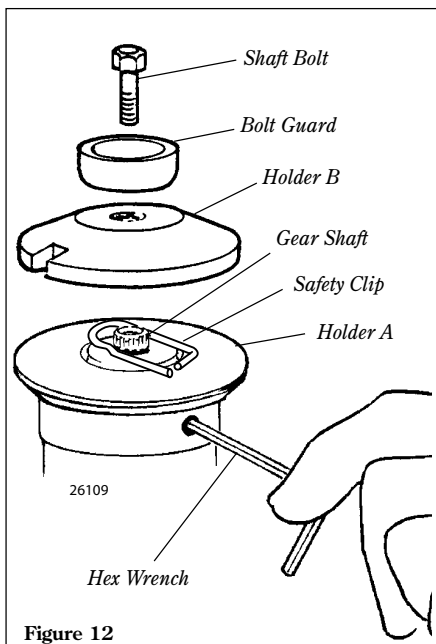

Figure 12
1. Align the hole in blade holder A with the matching hole in the gearcase flange and then temporarily lock the output shaft by inserting a hex wrench through both holes. See Figure 12.